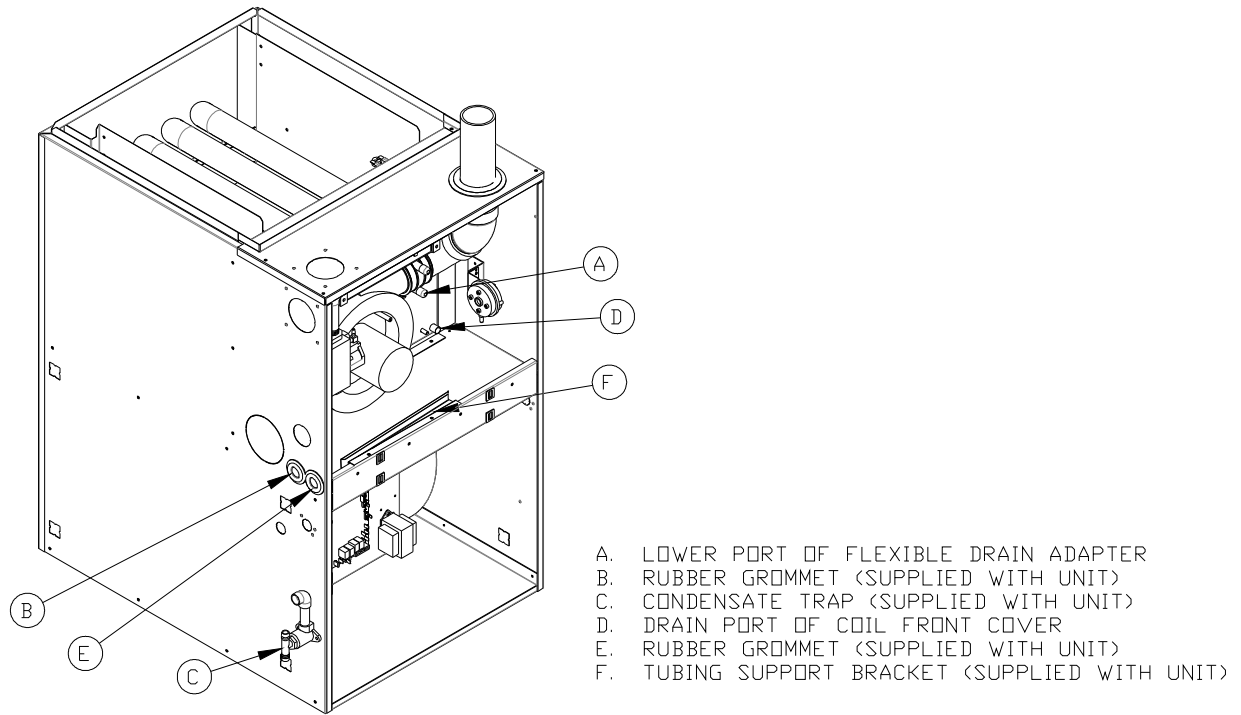
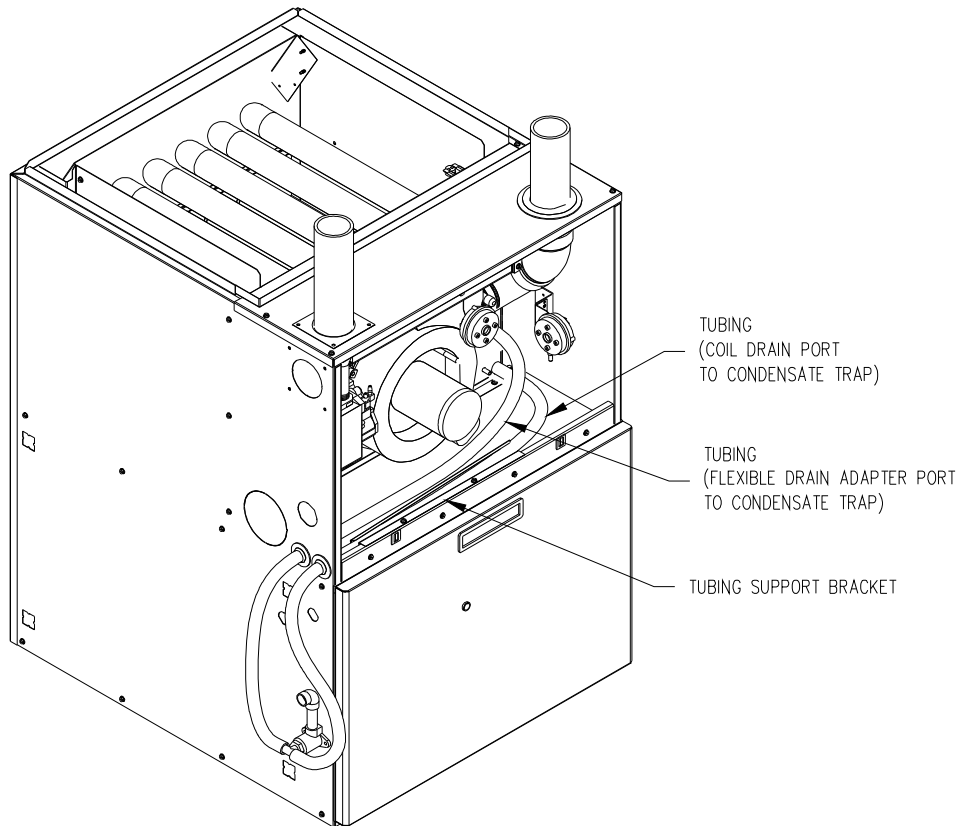

Figure 8a. Condensate Trap Assembly, Left Side
Figure 9. Condensate Trap Assembly, Left Side with Tubing Installed
1. The following diagrams depict typical condensate drain and trap connections for the furnace models series CLHS1 and CLHX1, refer to the illustrations in Figures 8a-8b and 9.
3. Attach one (1) drain hose (a length of 11/16 inch O.D. clear, colorless tubing) from the drain port of the Coil Front Cover plate through the rubber grommet (“E” in Figures 8a & 8b) in the side panel and connect to one of the barbs of the condensate trap. Tubing should create a gentle bend with no kinks. Cut to length as necessary and discard excess. Use the spring-type hose clamp(s) provided in the parts package to secure all connections.
If the condensate trap is on the Left Side of the furnace, as in Figure 8a, the tubing from the Coil Front Cover must be snapped into this bracket to hold it in place as shown in Figure 9. The tubing support bracket may be temporarily removed to allow easier assembly of the tubing into the bracket, but it must be reinstalled properly.
4. Attach the second drain hose (a length of 11/16 inch O.D. clear, colorless tubing) from the lower port of the Flexible Drain Adapter (“A” in Figures 8a & 8b) to the plastic hose barb tee provided in the condensate trap assembly. Cut to length as necessary and discard excess. Attach the drain hose to the hose barb on the other side of the condensate trap tee. Use the spring-type hose clamp(s) provided in the parts package to secure all connections.